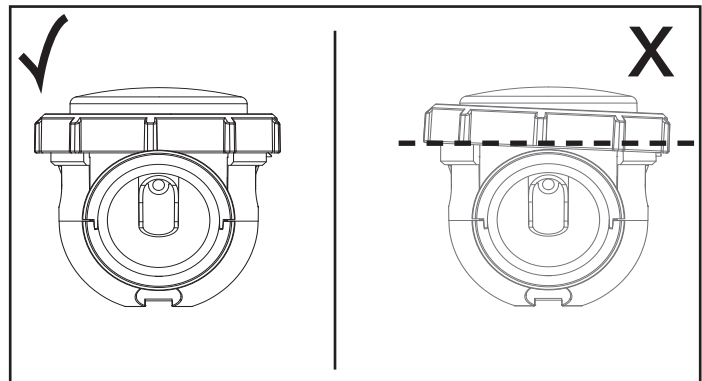

Figure 31. Locking Ring Level
**NOTE:** Ensure the locking ring is level when engaging the threading housing (see Figure 31).